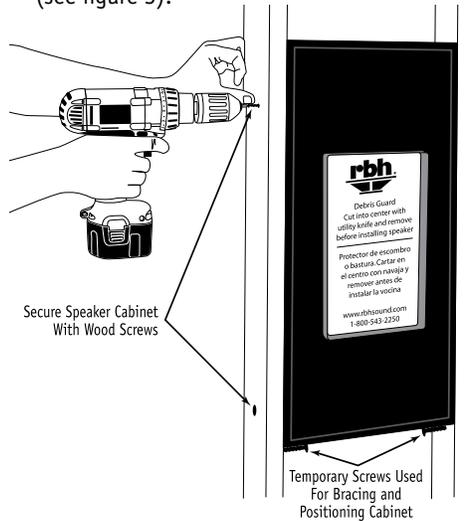

Figure 3.
1. Temporarily position and brace the speaker cabinet in-between two studs by using a couple of screws to hold the speaker in place (see figure 3).